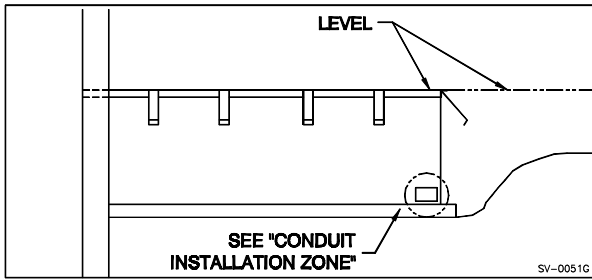

Figure 44: Conduits Required
1. ___ Provide holes in the side pan of the dock leveler for the electrical and/or hydraulic conduits. (See “Figure 44: Conduits Required” on page 37)
8. ___ Prior to pouring the concrete, re-examine the front and rear of the unit to ensure the top of the unit has remained level and in the desire final position. Once the concrete has been poured around the dock leveler, repositioning the dock leveler is very difficult and expensive. See “Figure 44: Conduits Required” on page 37. Ensure the temporary wire on blower is easily accessible. See “Figure 47: Accessible Temporary Wire” on page 31.
9. ___ Pour concrete to finished floor level and flush with the curb angle on all three (3) sides in **two stages**.